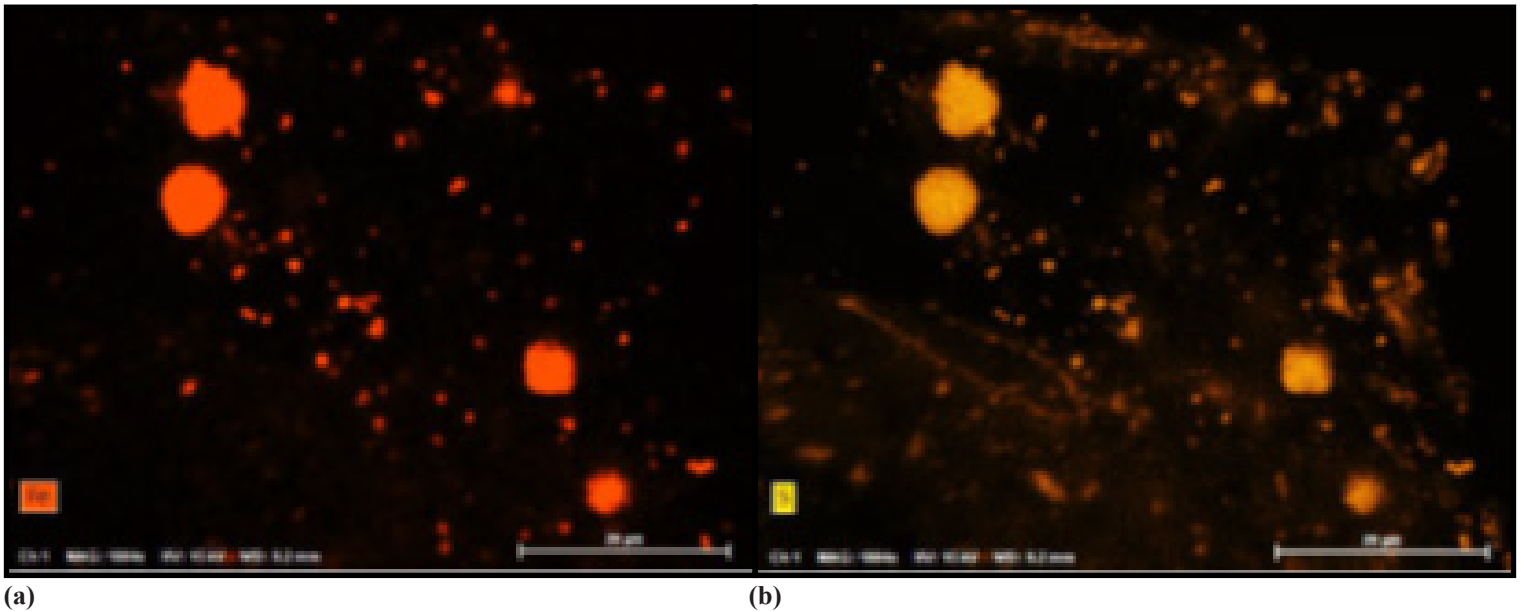

Figure 4: Phase 2 NF Concentrate CF PED results for (a) iron and (b) sulfur.
In evaluating the precipitation potential of the blended feed, iron sulfide (FeS) had the highest saturation index. As the NF concentrate contained rejected SI, concerns were raised about introducing a different antiscalant to the blended feedwater; the scale inhibitors' manufacturer documented that the two chemicals were compatible and synergistic in this application. A Phase 2 NF concentrate CF was autopsied using scanning electron microscopy (SEM) and energy-dispersive spectroscopy (EDX) to investigate the foulants present. The SEM-EDX and prismatic elemental delineation® (PED) analyses showed elevated concentrations of carbon and oxygen were observed on the CF indicative that organic matter (OM) was present and may cause organic fouling. Recall, the NF concentrate introduced an elevated DOC concentration to the feedwater and humic acid was the predominant organic fraction. FeS and pyrite (FeS2) were present on the CF as iron and sulfur were observed in the same locations, shown in Figure 4. It was theorized that FeS2 was formed due to biological activities as the CF was stained green likely due to green sulfur bacteria (GSB). GSB use light energy and hydrogen sulfide as an electron donor to oxidize sulfur [3]. Additionally, bacteria introduced by the NF concentrate stream may oxidize humic acid, reduce sulfate, and eventually promote the formation of FeS2 [3,4,5,6].